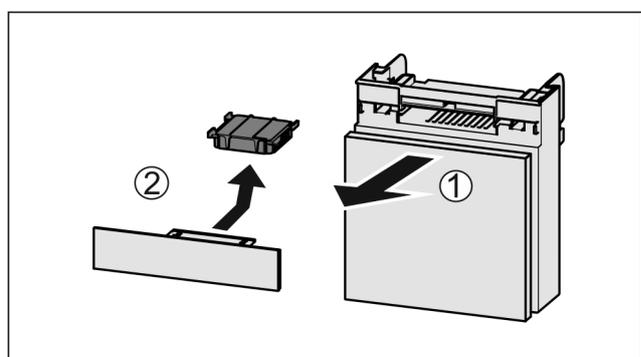

Fig. 36
- ▶ Pull out the compartment Fig. 36 (1).
- ▶ Remove the carbon filter Fig. 36 (2).